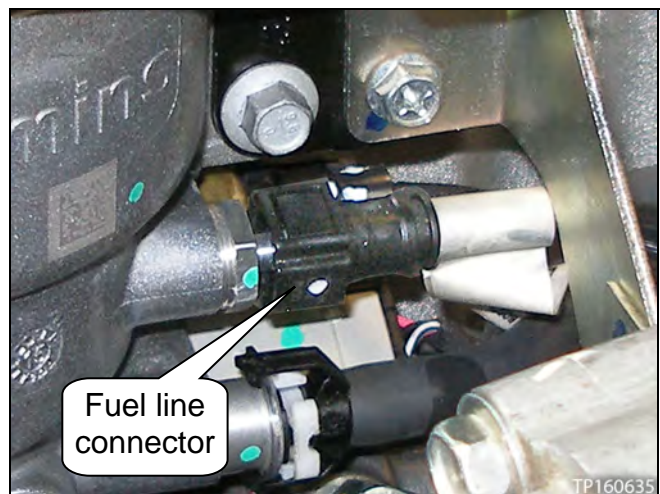

Figure 23
- To remove the fuel line, pinch the tabs on both sides of the fuel line connector, and then pull off (see Figure 23).